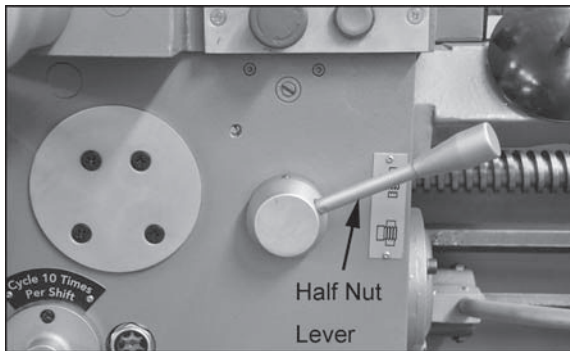

Figure 33
4. Engage the half nut (Figure 33). The half nut must be engaged during the entire threading process when doing metric, diametral, and modular threading.